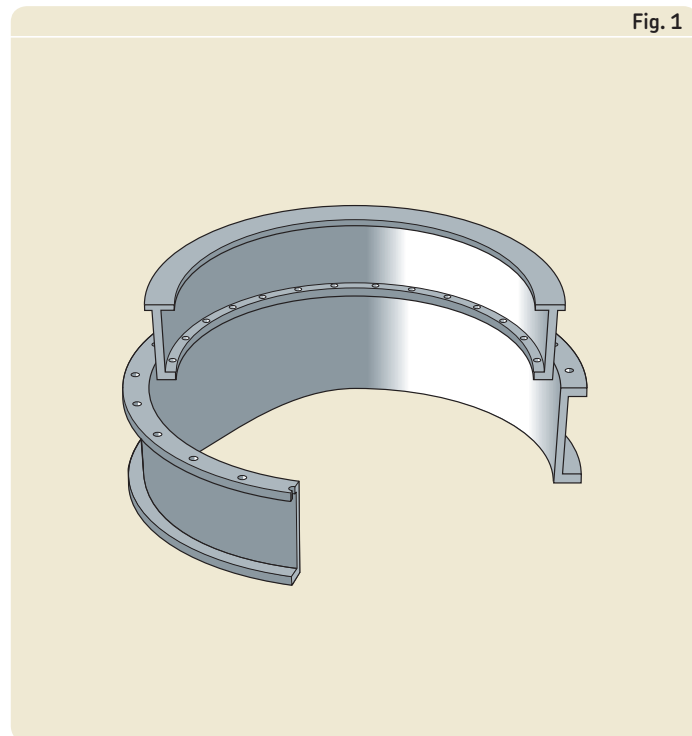

Fig. 1
- the bearing rings must be fully supported around their complete circumference and across the entire width of the axial side faces by strong and rigid associated components (→ **fig. 1**)